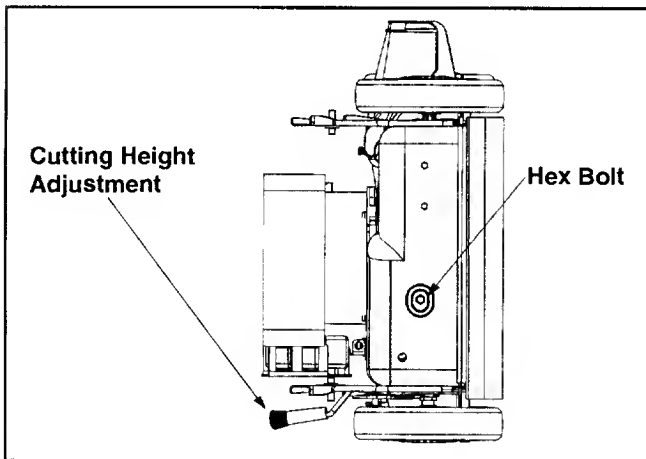

Figure 19
- Remove the hex bolt from the rear of unit holding the transmission to the mower housing. See Figure 19.